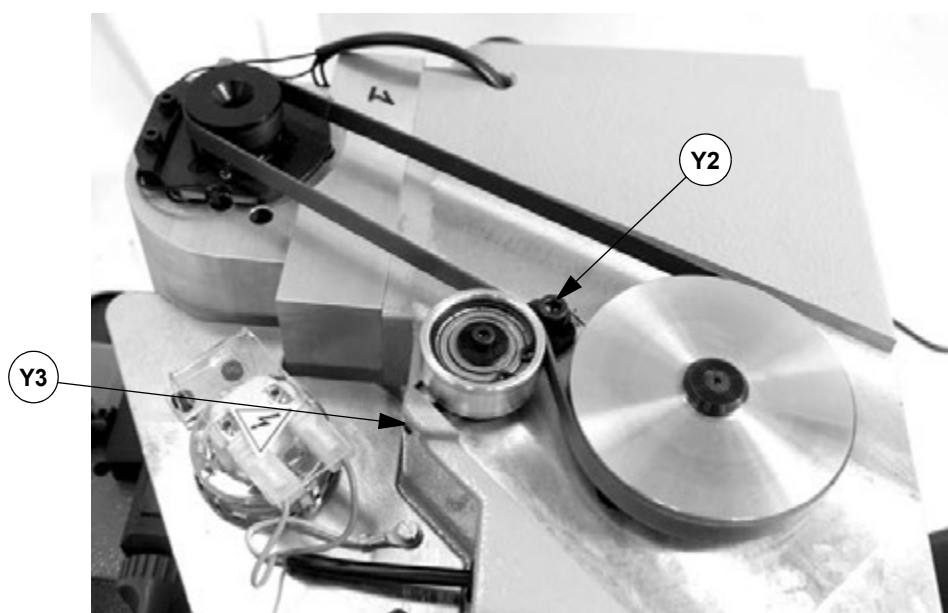

Fig. 67
- 3) loosen (without removing) the grub screw (Y2) that secures the belt tightening pulley (fig. 67).